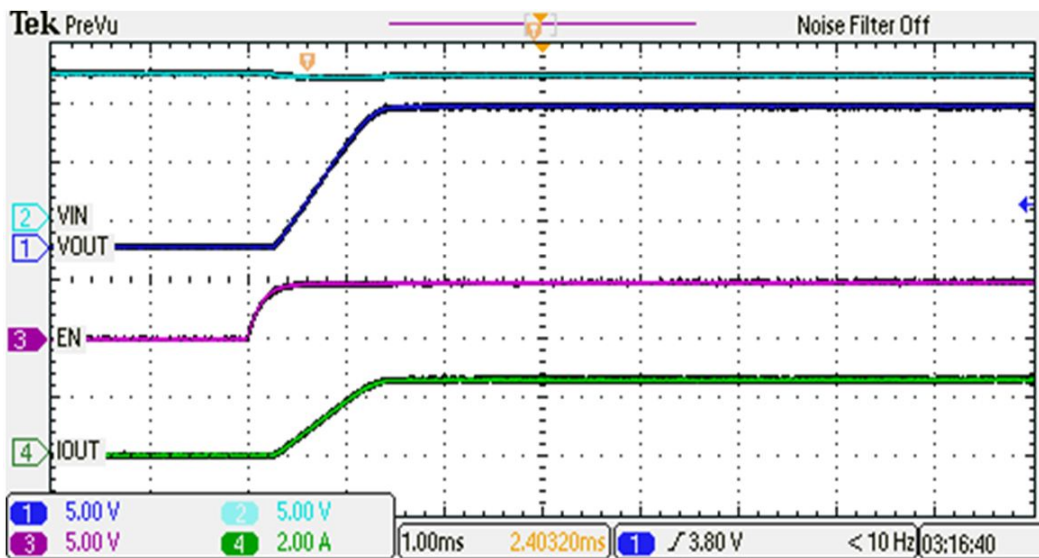

Figure 3. Vout Ramp-Up Time of Auto-Retry Circuit Breaker (CH1)
3. Turn off the power supply. Hook up CH1 and CH2 of the PWR635 assembly as shown in Figure 3.
2. Set the output load at 5 Ω on CH1 and then enable the load. Turn on the power supply, Press the EVM RST switch (S1) and release, verify that VOUT1 (TP2) ramps up as shown in Figure 3.